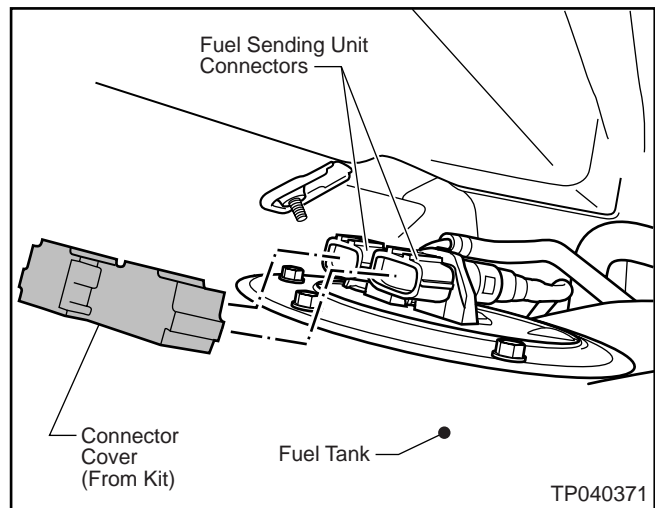

Figure 4
3. Install the Connector Cover onto the Fuel Sending Unit Connectors until it is fully seated. See Figure 4.